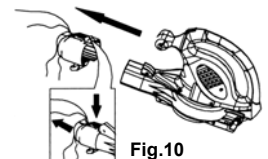

Fig. 10
3. Press on locking tab to remove bag adapter from unit. (Fig. 10)